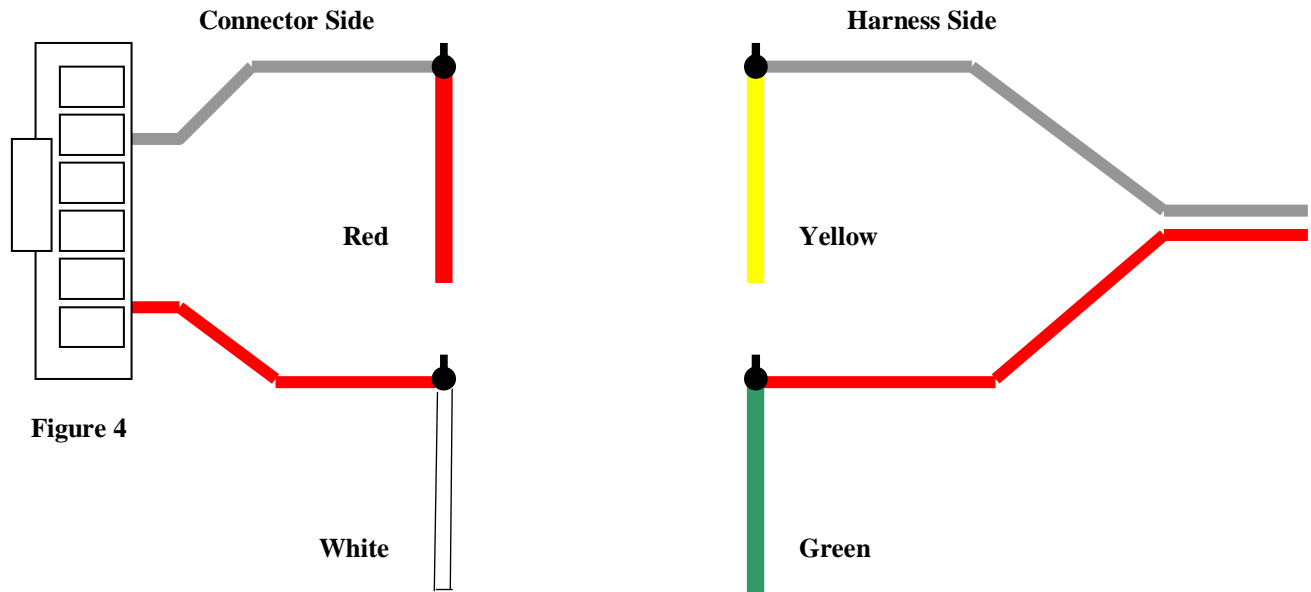

Figure 4
1. Use the diagram and chart below to install the pedal interface harness. Disconnect the Pedal Interface Harness at the 2-pin connectors to ease installation of solder connections. Cut the selected wires at the accelerator harness leaving at least 2 inches of harness from the connector. Solder the wire ends from the pedal interface harness to the accelerator pedal harness according to each wire color listed in chart. **After soldering, wrap the exposed wires with electrical tape. Figure 4.**